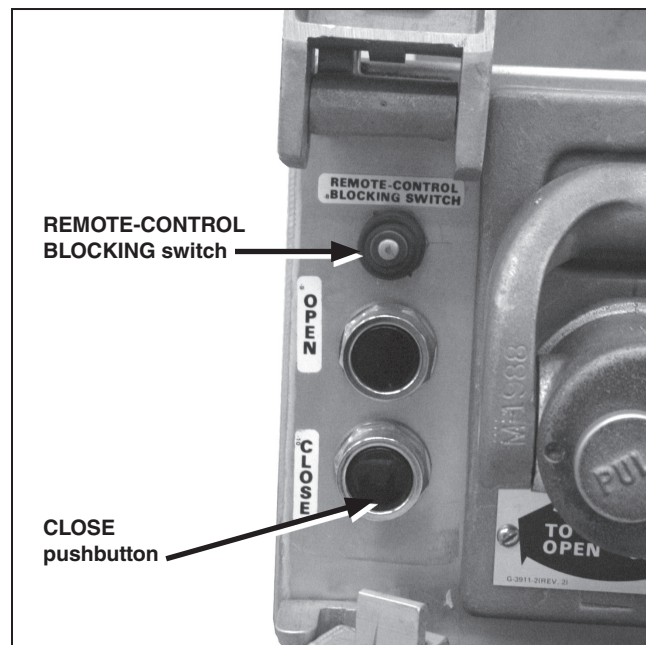

Figure 13. Lift the pushbutton protective cover, and press the **CLOSE** pushbutton.
- STEP 2.** Lift the pushbutton protective cover of the Mark VI CS-1A Switch Operator. For circuit-switchers with the optional remote-control blocking switch (catalog number suffix “-Y”), opening the pushbutton protective cover prevents remote operation of the switch operator. See Figure 13.
- STEP 3.** Press the **CLOSE** pushbutton for about one second. See Figure 13.